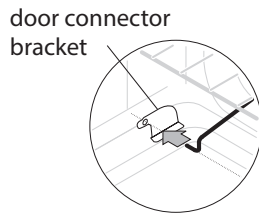
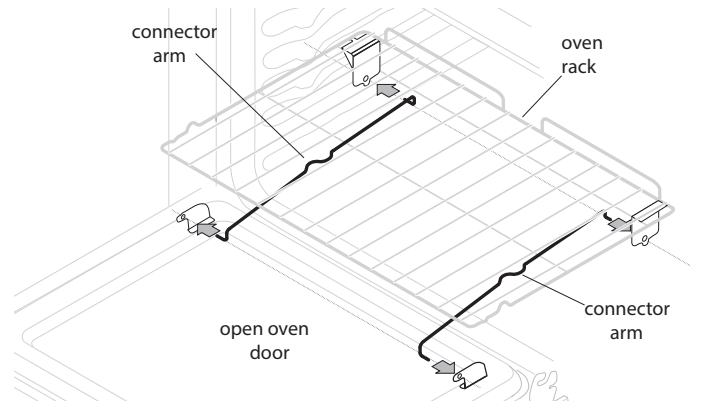

Figure 21: Connector arm/door connection
Figure 22: Assembly of the Effortless™ oven rack
5. Assemble one connector arm at a time. With the oven door open and the oven rack in place, install one end of the connector arm to the hole in the door connector bracket (Figure 21) and the other end in the hole in the rack connector bracket (Figure 22). The oven rack may need to be adjusted in or out in the rack position to match the length of the connector arm.